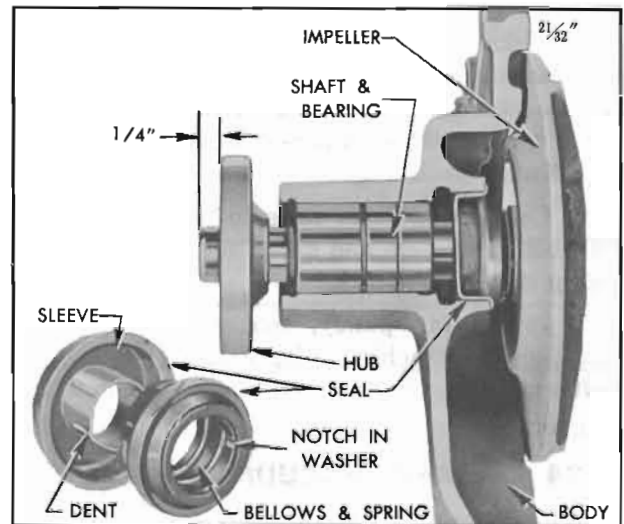

Figure 2-38—Water Pump Parts
7. Check pump shaft bearing for end play, or roughness in operation. If bearing is not in servicable condition, press the fan hub off the shaft then press bearing out toward FRONT of pump cover. See figure 2-38.
2. Use care to start the fan hub squarely on front end of bearing shaft and press it into position $\frac{1}{4}$ " from end of shaft. See figure 2-38.
Install the carbon washer, bellows and spring assembly in the old sleeve in pump body, being careful to engage the two notches in washer with the driving dents in brass sleeve. See figure 2-38.
4. Coat the face of carbon washer and impeller hub with rust preventative or Seco Oil, then support pump assembly on the fan end of shaft and press the impeller on inner end of shaft until rear face of impeller is $21/32$ " from rear face of housing as shown in Fig. 2-38.